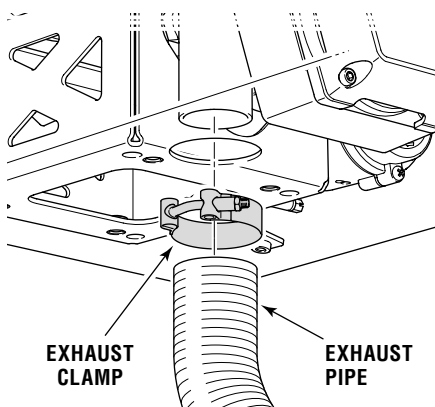

Figure 4-22. Exhaust Pipe.
- f) Remove exhaust clamp and pipe from Heater (figure 4-22).
- k) Connect exhaust system. Note the exhaust clamp bolt must be positioned as shown or it will interfere with the burner head installation. Refer to figure 4-22.